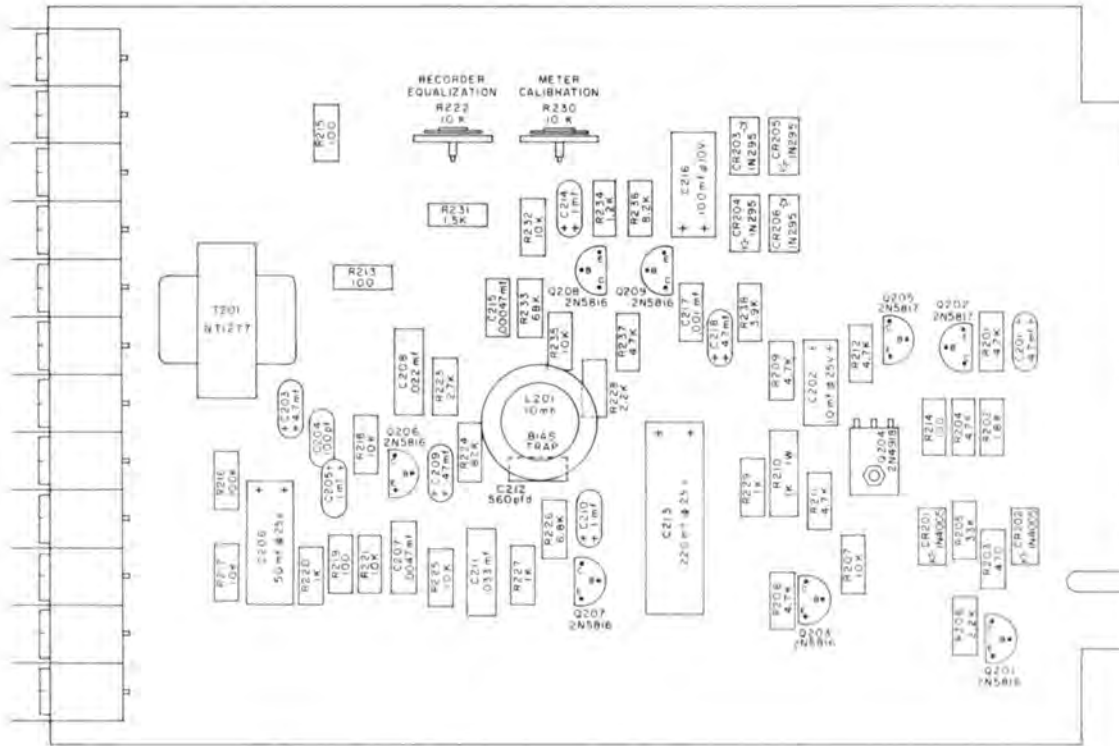

FIGURE 8-4
C. RECORDER FUNCTIONS PC BOARD (831-0079-003 - Figure 8-4)